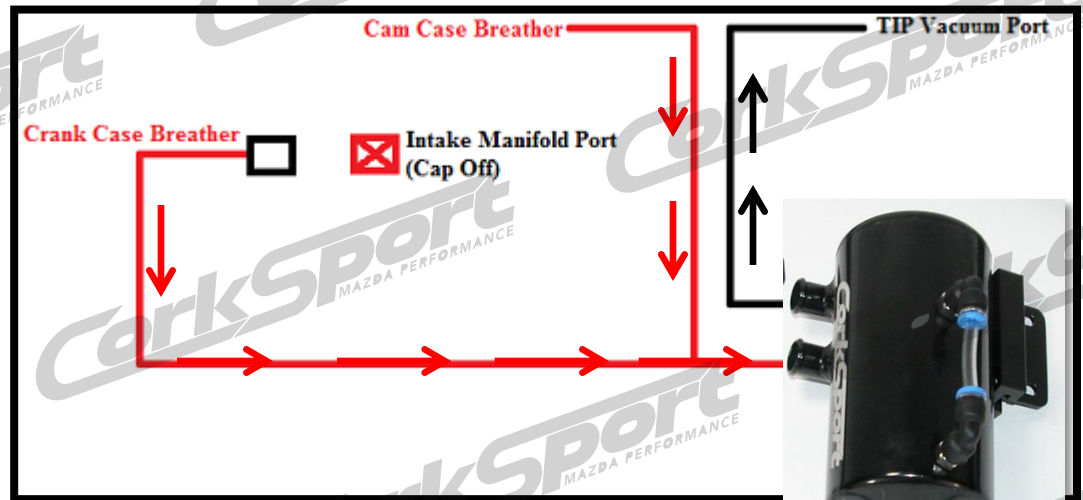

Figure 2d
-  To maximize the efficiency of the Oil Catch Can we are going to connect the Cam Case breather and the crank case breather together. **Figure 2d** shows the final routing. Use this for reference through the rest of the instructions.
To maximize the efficiency of the Oil Catch Can we are going to connect the Cam Case breather and the Crank Case breather together. **Figure 2d** shows the final routing. Use this for reference through the rest of the instructions.